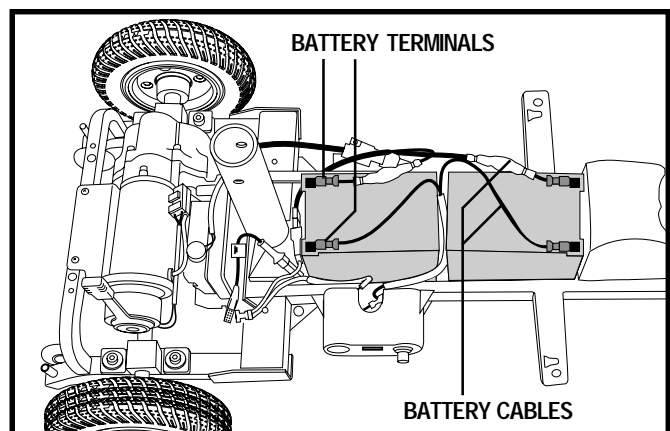

Figure 16. Battery Terminal Connections
7. Disconnect the red (+) positive and black (-) negative battery cables from the battery by pulling them straight away from the battery terminal. **See figure 16.**